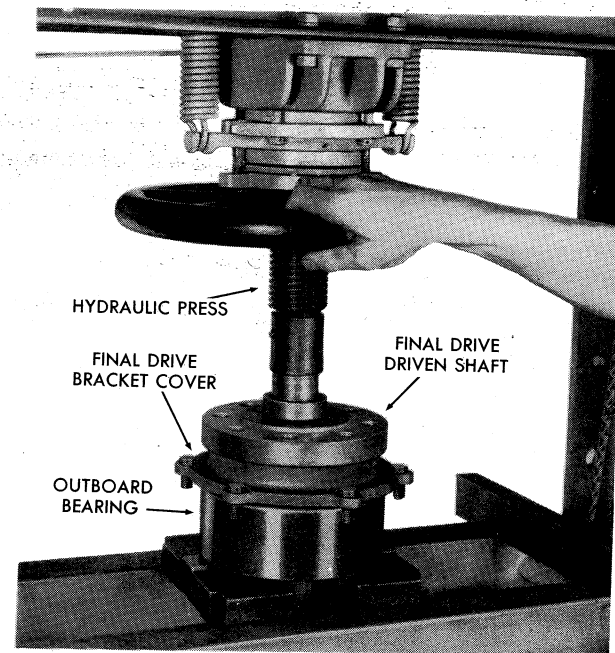

FIGURE 84—Installation of final drive driven shaft outboard bearing.
b. Assembly.—Place oil seals in cover so that lips of leathers are toward bracket. Place six cap screws in cover. Put cover in place on shoulder of driven shaft. Set bearing in an arbor press supported at the inner ring by press bars. Lower the shaft through the bore of the bearing and press the shaft into the bearing until the bearing is solidly against the shoulder on the shaft (fig. 84).